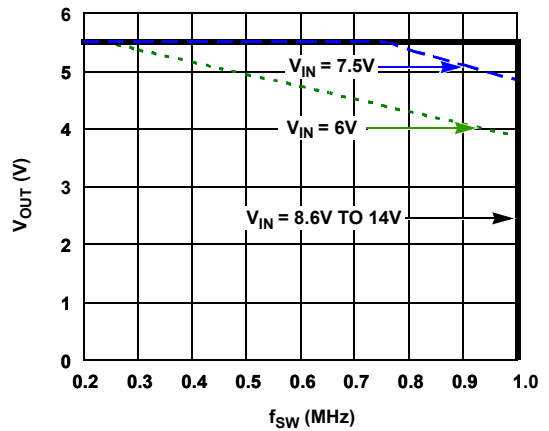

FIGURE 8. SAFE OPERATING AREA, $T_J \leq +125^\circ\text{C}$
9. Refer to Safe Operating Area in Figure 8 and thermal design guidelines in AN2010.
11. Percentage of Full Scale (FS) with temperature compensation applied.